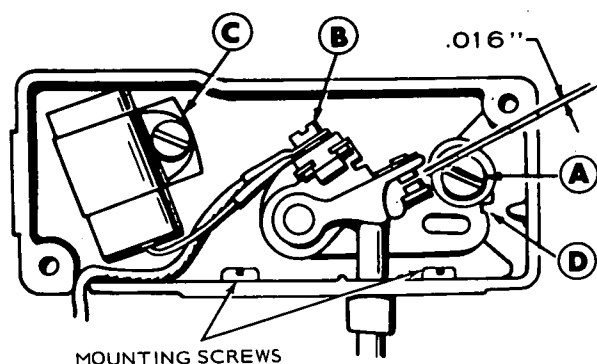

FIGURE 22. BREAKER POINT ADJUSTMENT
3. Refer to Figure 22. Remove mounting screw (A) and pull the points out of the box just far enough so screw (B) can be removed and leads disconnected.
4. Remove screw (C) and replace condenser with a new one.
5. Replace points with a new set but do not completely tighten mounting screw (A).
7. Using a screwdriver inserted in notch (D) on the right side of points, turn points until gap measures .016-inch with a flat thickness gauge. Tighten mounting screw and recheck gap.